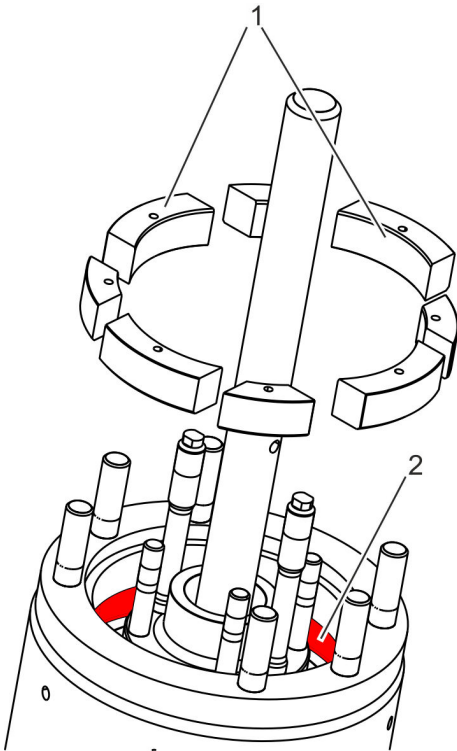

Fig. 32: Inserting segments
- 19.** ▶ Insert segments (Fig. 32/1) into the body groove (Fig. 32/2).